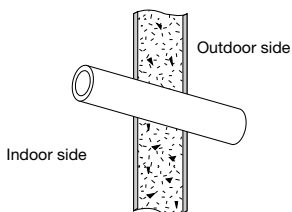

Figure 5
2. Make a hole in the wall using a key hole saw or hole-cutting drill attachment. The hole should be made at a slight downward slant to the outdoor side (Figure 5).